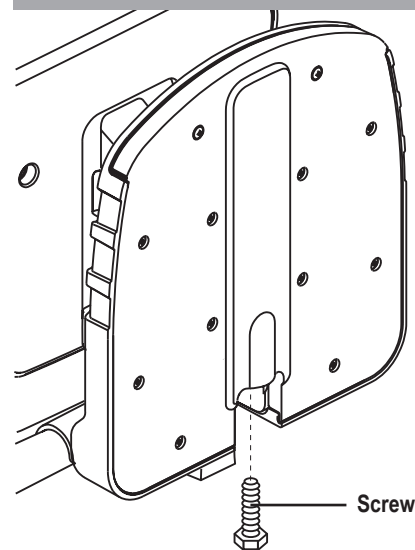

Figure 18. Underside of Foot Platform
1. Flip up the foot platform and locate the screw. See **figure 18**.